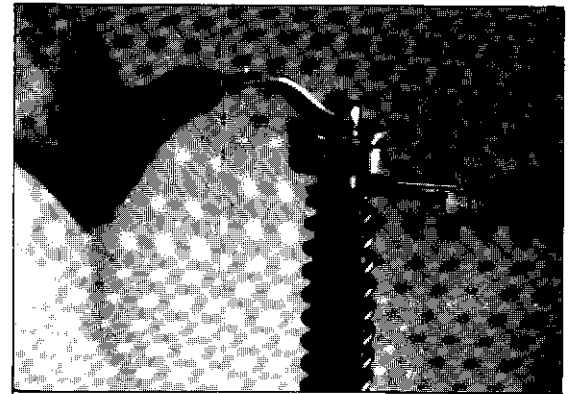

Fig. 14
28) Tighten the piston rod lock nut against the fork bolt comp. by holding adjuster comp. (Fig. 14).